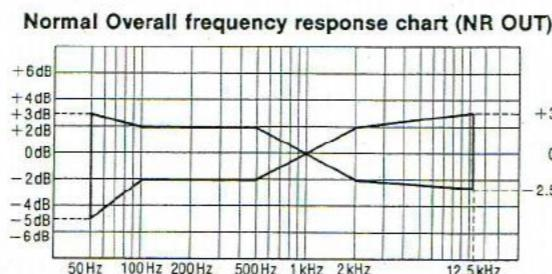

Fig. 8
- Playback the recorded signal and assure that it is within the range shown in Fig.8 in comparison to the reference frequency (1 kHz).